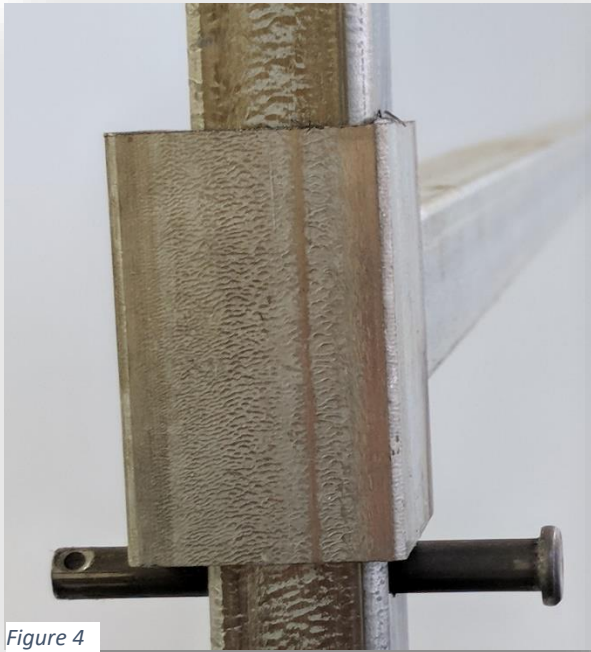
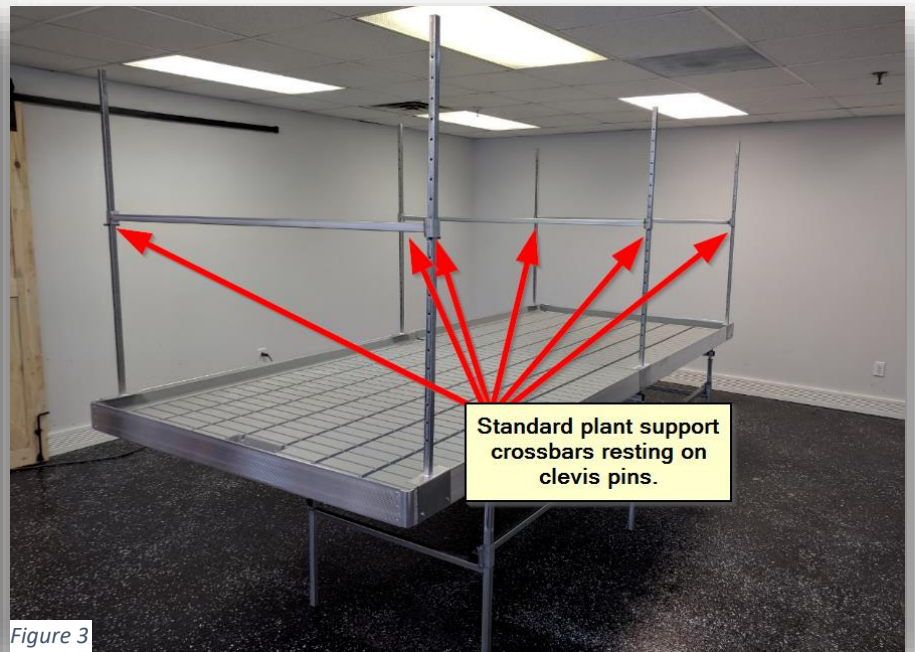

Figure 4
Figure 3
3. Next, slide the standard plant support system cross bars (**PS1**) down the opening at the top of the upright posts (**PS3**) and rest them on top of the clevis pins (**A14**) as shown in Figure 4. You should do the same for all the standard plants support system cross bars (**PS1**) as shown in Figure 3.
4. Now take the stringer pipe and lay them along the top of the plant support cross bars (**PS1**). They should be around the same length as the bench itself, not the upright supports. Once they're lined up parallel to the bench, you can use the square to square clamps and the ¼ - 20 bolts and nuts (**A6**). Be sure the bolts are pointing downward as shown on Figure 4.